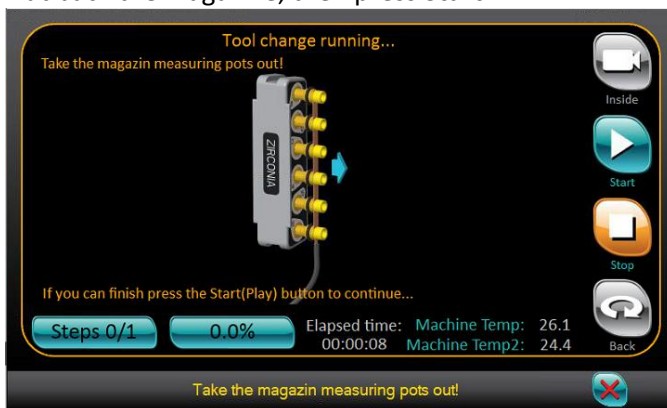

Figure 38 Removing the measuring pots.
4. Take out the magazine and remove the measuring pots [Figure 38]. Put back the magazine, then press **Start**.